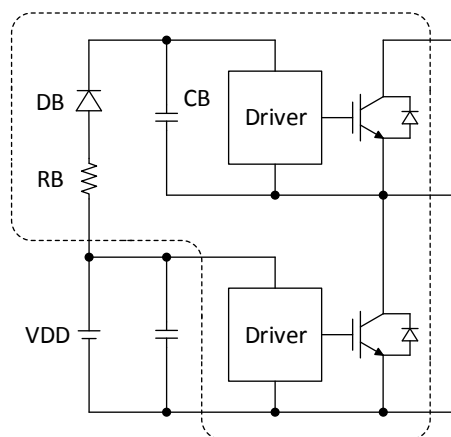

Figure 20. Boot Strap Circuit
**VB1, VB2, VB3** The VBx pins are internally connected to the positive supply of the high-side drivers. The supply needs to be floating and electrically isolated. The boot-strap circuit shown in Figure 20 forms this power supply individually for every phase. Due to integrated boot resistor and diode (RB & DB) only an external boot capacitor (CB) is required.